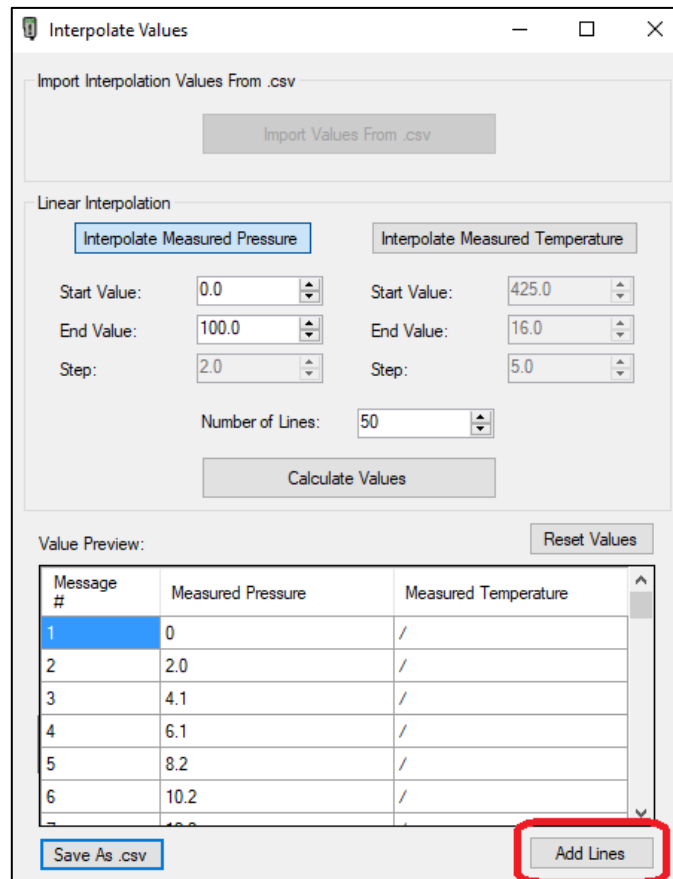

FIGURE 6-33 HHT TEST PATTERN GENERATOR SOFTWARE – ADD MP LINES (# OF LINES)
STEP 6	<p>To copy this interpolated test pattern to the main screen, so that you can program the HHT, click on the “Add Lines” button – see Figure 6-33.</p> <p>Close the “Interpolate Values” window by clicking on the “X” at the top right corner.</p>